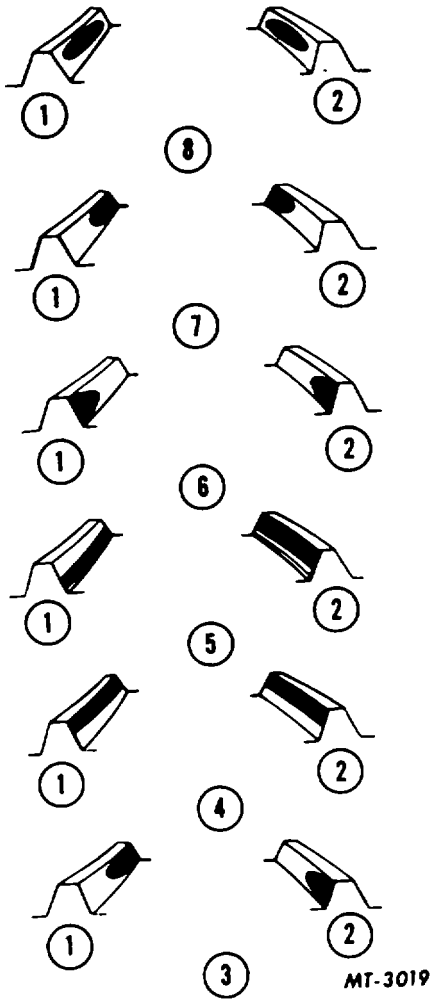

Fig. 20. Tooth Contact Impressions
42. When the pinion is rotated, the red lead is squeezed away by the contact of the teeth, leaving bare areas the exact size, shape and location of the contacts (Fig. 20).
44. With adjustments properly made, a correct tooth contact similar to that shown in Fig. 20, will be secured. The area of contact starts near the toe of the gear and extends about 62 1/2 per cent of the tooth length. This adjustment results in a quiet running gear and pinion set which, because the load is distributed over the teeth within the proper area, will deliver all the long service built into it.